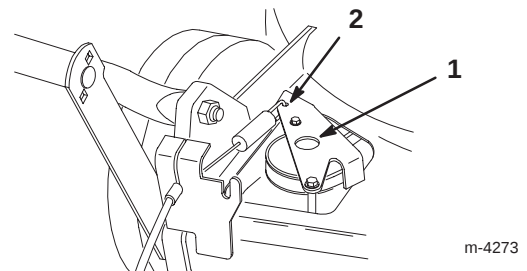

Figure 22
5. Push the drive bracket down until it contacts the lawn mower, then hold it in place (Fig. 22).